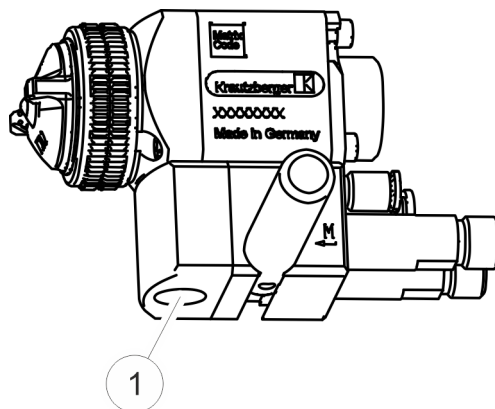
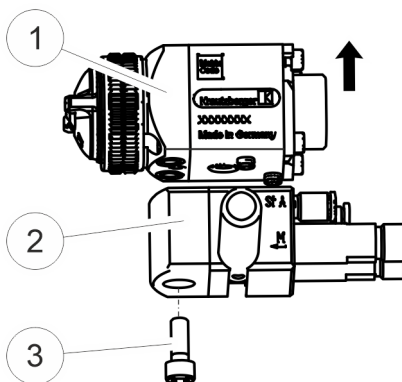
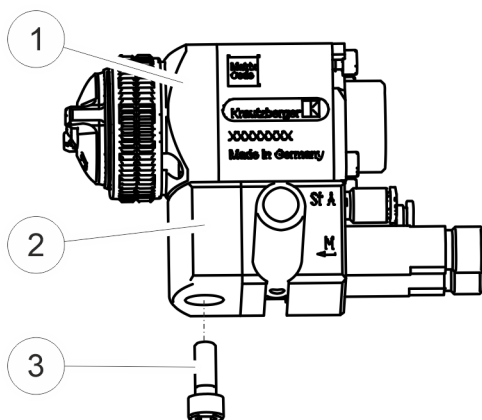

Fig. 6: Removing the plug
Fig. 7: Installing the automatic spray gun
Fig. 8: Installing the automatic spray gun
1. ➡ Remove the plug ( Fig. 6/1) at the underside of the adapter.
2. ➡ Loosen and remove the cylinder screw located in the adapter ( Fig. 7/3). Remove the automatic spray gun ( Fig. 6/1) from the adapter ( Fig. 6/2).
1. ➞ Place the automatic spray gun ( Fig. 6/1) back onto the adapter ( Fig. 6/2) and tighten with the cylinder screw ( Fig. 8/3).
2. ➞ Reinsert the plug ( Fig. 6/1).